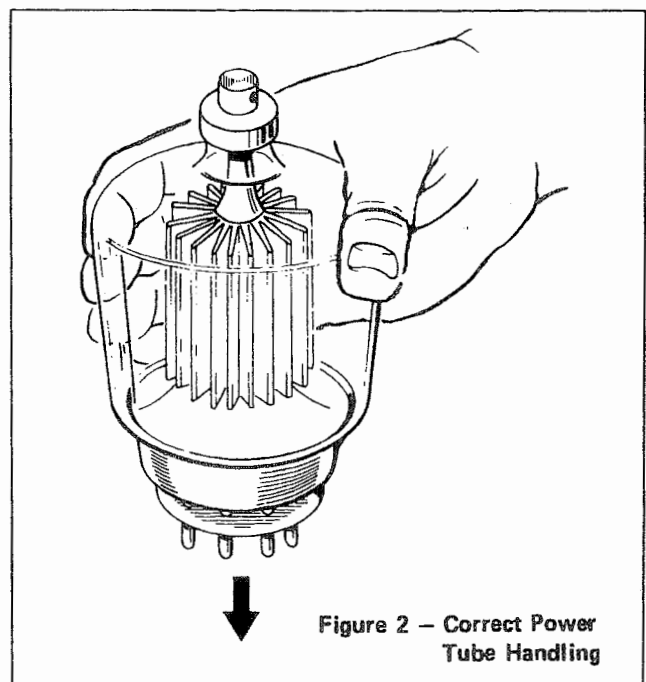

Figure 2 - Correct Power
5. Take the tubes out of their case (Refer to Fig. 2). In handling, be sure to hold them by the glass envelope, not the plate cap.